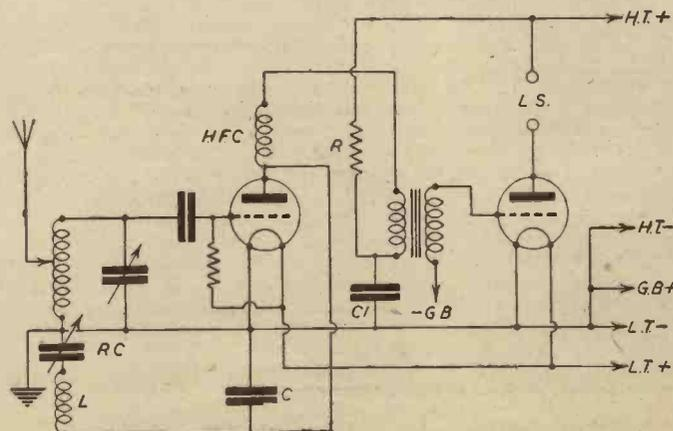

Fig. 3.—Circuit completed with normal anode decoupling components.
H.T. positive line which is common to all anodes, therefore it becomes necessary to introduce *further traps*, and it is these which come under the heading of decoupling. In this particular case, such arrangements would be termed *anode decoupling*, to differentiate them from others which will be explained later. Fig. 3 shows the necessary additions to the circuit; the resistance R and the condenser C1 forming the complete decoupling, the resistance offering a further obstacle to H.F. currents from the anode, while the condenser provides a very easy path to earth for H.F. or L.F. currents which reach that spot.